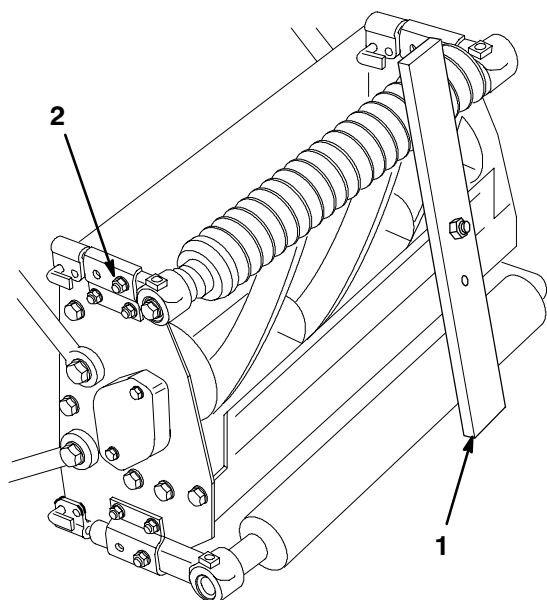

Figure 7
2. Slightly loosen nut securing each front roller bracket to angle bracket (Fig. 7).
4. Place the bar across the front and rear rollers and adjust the front roller support screws until the underside of screw head engages the bedknife cutting edge (Fig. 7). Do this on both ends of reel. Make sure the rollers are free of debris and/or distortions on the roller surfaces.